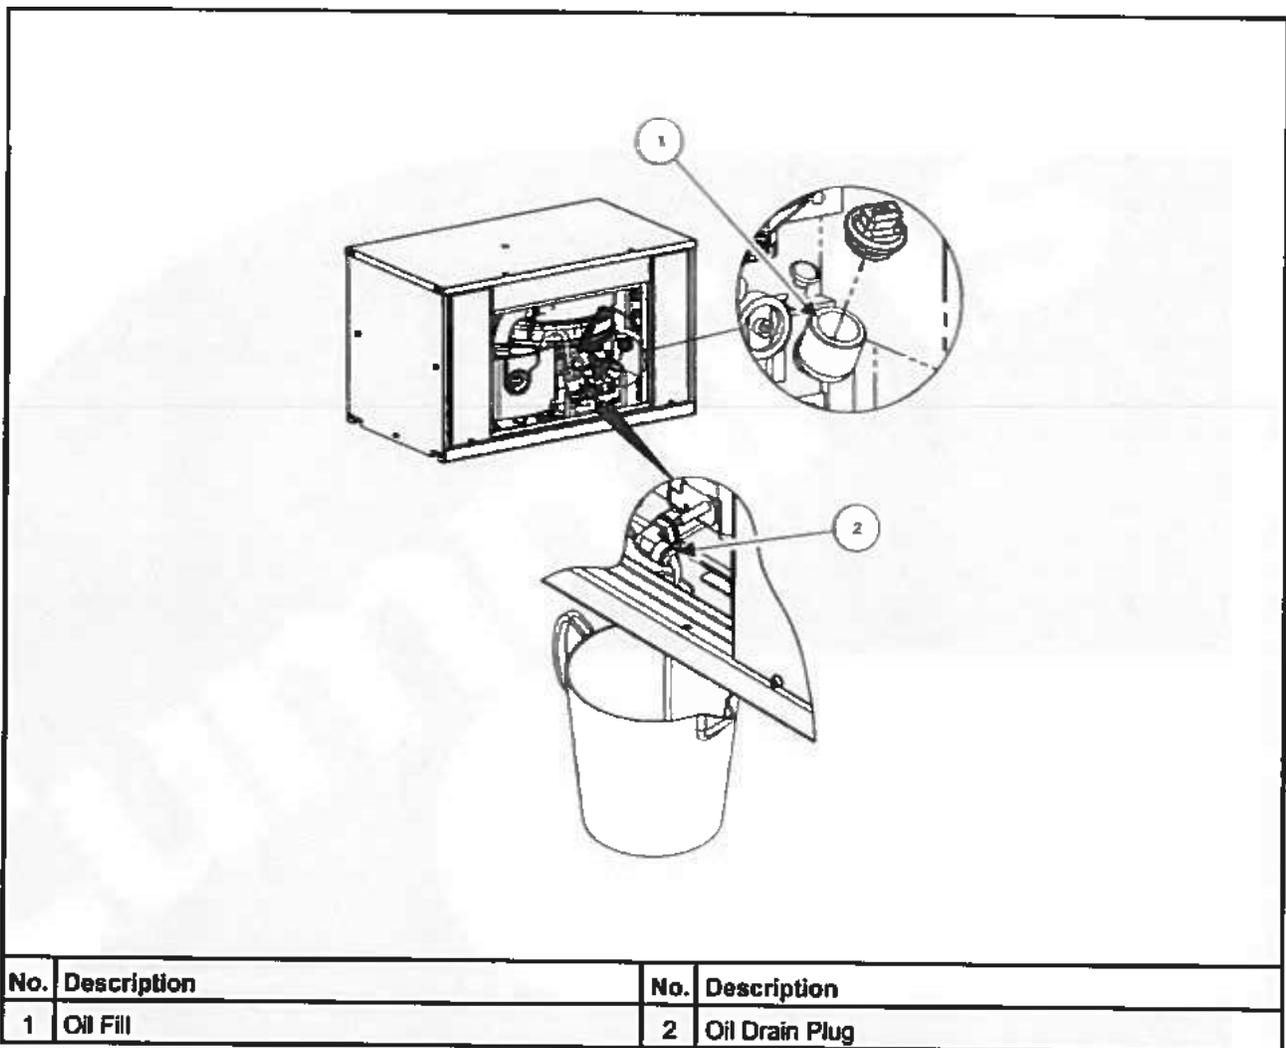

FIGURE 6. CHANGING ENGINE OIL
3. Place a pan large enough to hold the full oil capacity of the engine under the oil drain plug (see Figure 6).